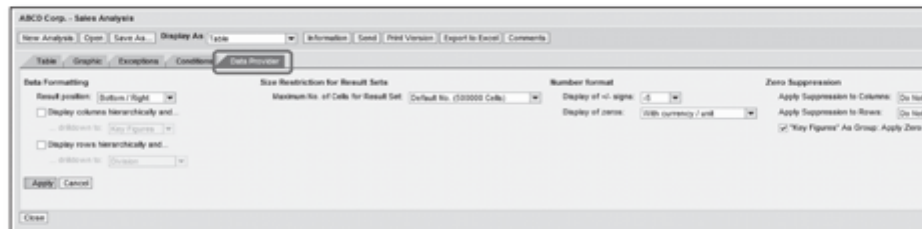

Figure 10.60 Analysis Settings: Data Provider
- **Data Provider:** The settings related to the display of data elements from the data provider are maintained on this tab page (Figure 10.60). These include the settings for the position of the result rows, display settings for the result set, display settings for numbers, and settings related to the suppression of zero values in the analysis.